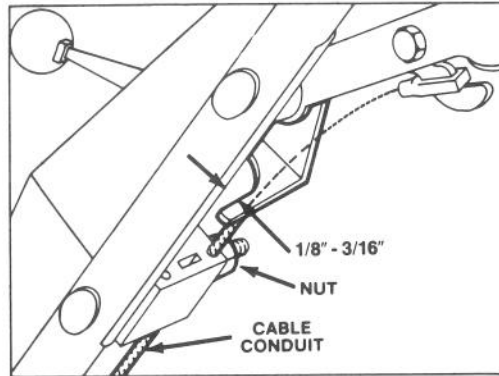

Figure 15
2. **CHECK ADJUSTMENT** (Fig. 15) — Move control bar toward handle until slack in wire is removed. Gap between brake lever and handle must be  $1/8'' - 3/16''$ . See step 3 for adjustment.
3. **ADJUST CABLE CONDUIT** — Loosen nut on cable bracket (Fig. 15). Insert  $1/8'' - 3/16''$  object between brake lever and handle. Pull down on cable conduit until slack is removed. Then tighten nut.